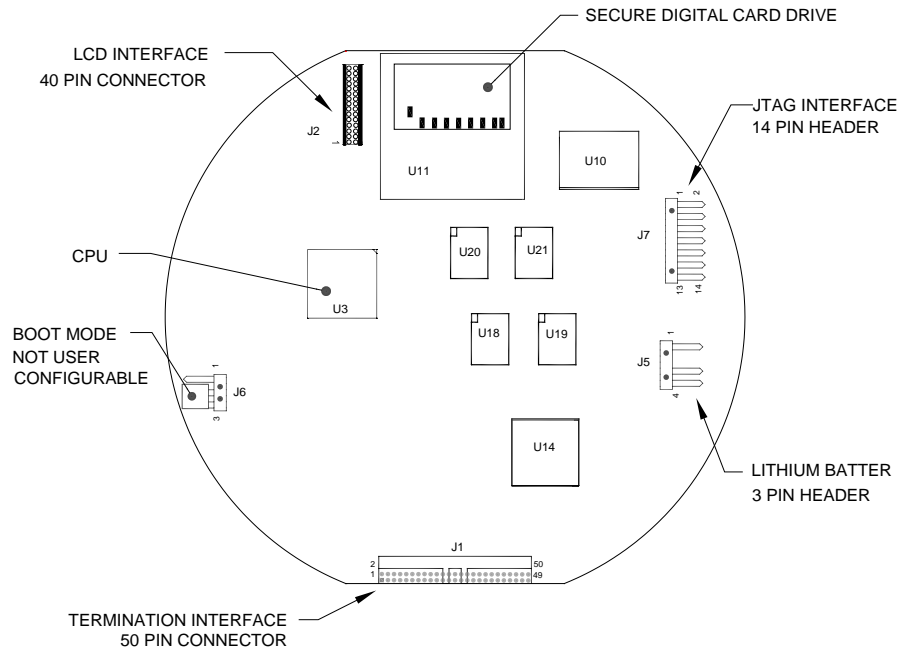

Figure 5-11 Primary Component Side Digital Controller Board
- 5) Unplug the lithium battery connector from the J5 receptacle on the digital controller board (see Figure 5-11).